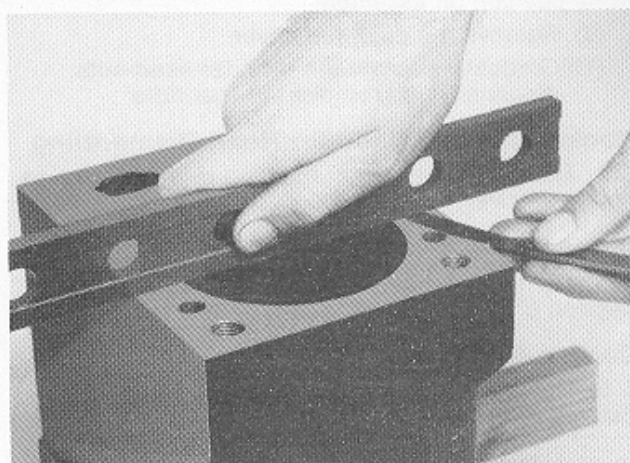

Figure 5.2 Checking the Cylinder Liner Protrusion
- (1) Clean all joint faces ensuring that the liner register in the top of the cylinder block is clean and undamaged.
- (2) Stand the cylinder block on two pieces of wood, making sure they are clear of the bore.
- (3) Check the cylinder liner bore joint ring groove for damage.
- (4) Lightly lubricate a new joint ring and place it in the groove in the liner.
- (5) Push the liner into the cylinder by hand. Ensure that the liner enters the block squarely to avoid damage to the ring.
- (6) Check that the liner stands proud of the top face of the cylinder block by 0.051 to 0.178 mm (0.002 to 0.007 in.). the protrusion should be checked in various positions around the blocks upper face, as shown in Figure 5.2. If necessary skim the cylinder block to achieve this figure.